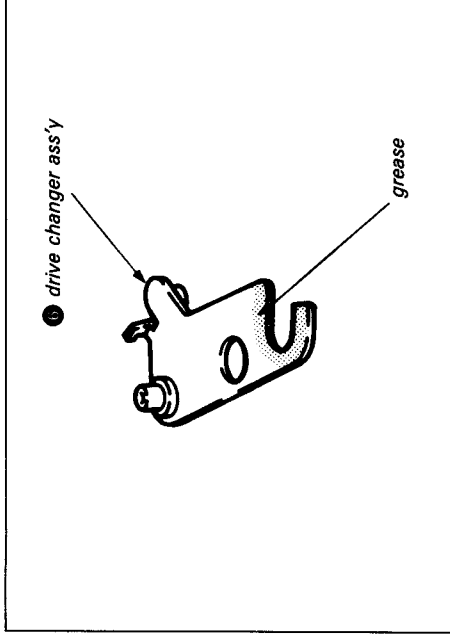
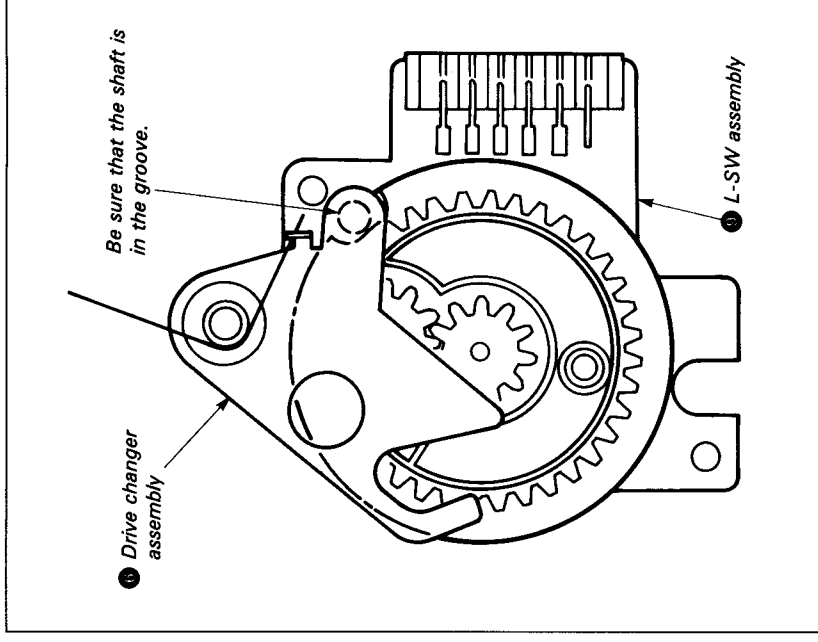

Fig. 7-34.
Fig. 7-35.
- 1) Place a half drop of oil on the L-SW assembly ③ spindle (planetary gear).
- 2) Mount L-SW assembly ③ and tighten with the two screws ④.
- 3) Connect connector ⑦.
- 4) Operate the mode selector and check that the L-SW assembly ③ rotates.
- 5) Place a half drop of oil on spindle ③.
- 6) Grease the drive change assembly ⑥ as shown in Fig. 7-34.
- 7) Mount the drive changer assembly ⑥.
- 8) Mount the torsion spring ⑤ and the stopper washer ①.
- 9) Operate the mode selector and check that the L-SW assembly ③ rotates.
- 10) Mount lock slider A ④ and tighten screw ②.
- 11) Mount lock slider retainer ①.
- 12) Operate the mode selector and set to the position in Fig. 7-35.